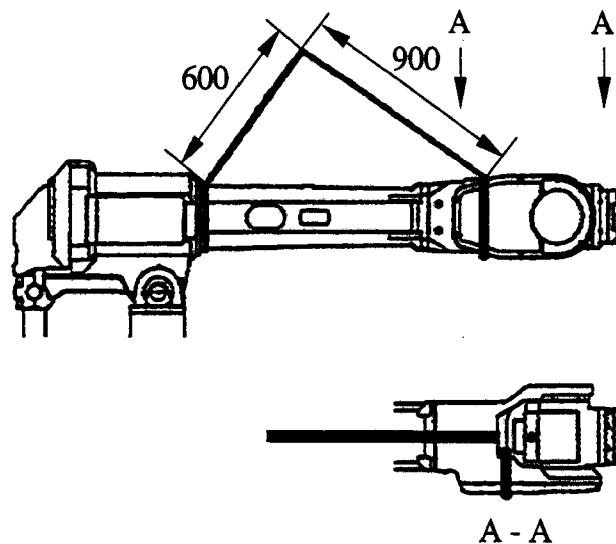

Figure 2 Lifting the upper arm.
3. Attach a hoist to the upper arm. See Figure 2.